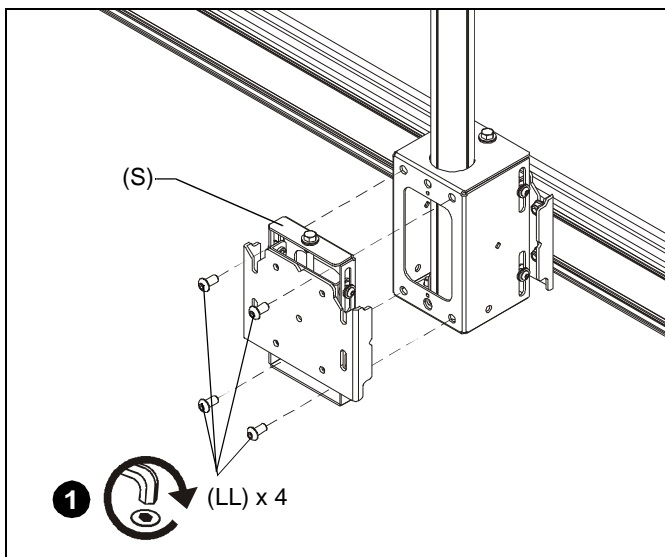

Figure 1
1. Attach add-on head (S) to existing array head using four 5/16 x 5/8" button head cap screws (LL). (See Figure 1)